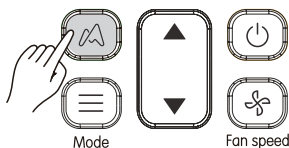

Figure 3.15
1) Press  (see Figure 3.15) to send the Kaysun ETA function signal to the indoor unit. The  icon is displayed;